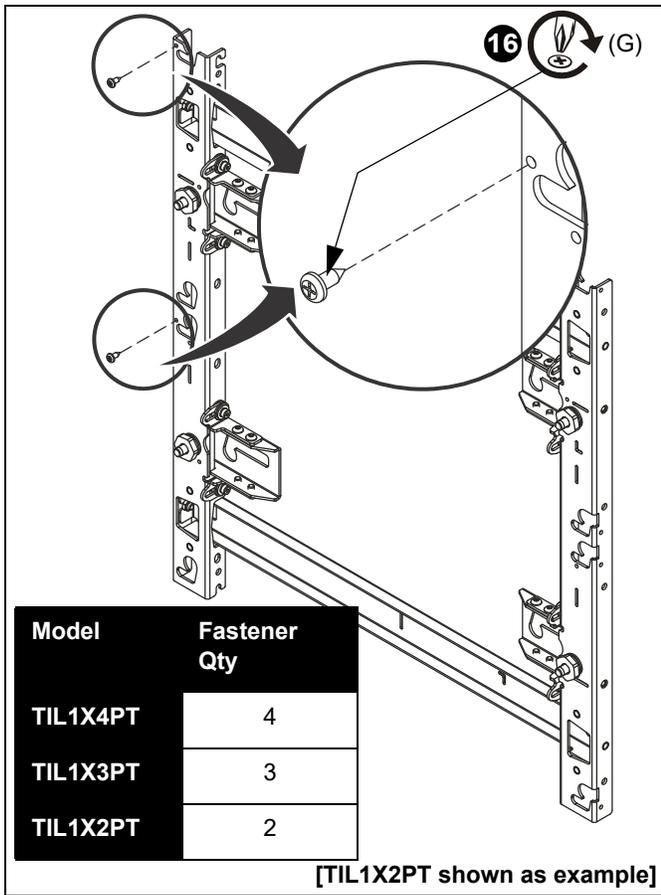

Figure 13
16. Install one #10 x 1/2" Phillips tapping screw (G) into left upper LED mounting button hole for each LED screen space. Install the tapping screws ONLY on the furthest left column of mounts. (See Figure 13)